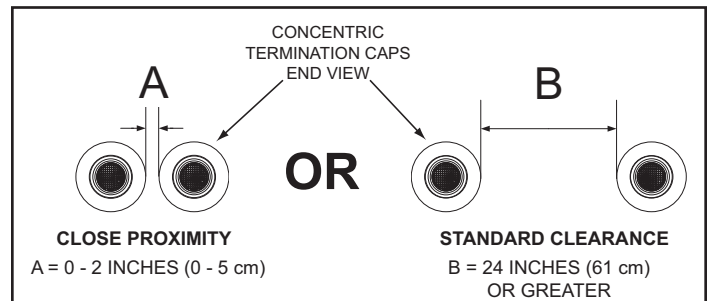
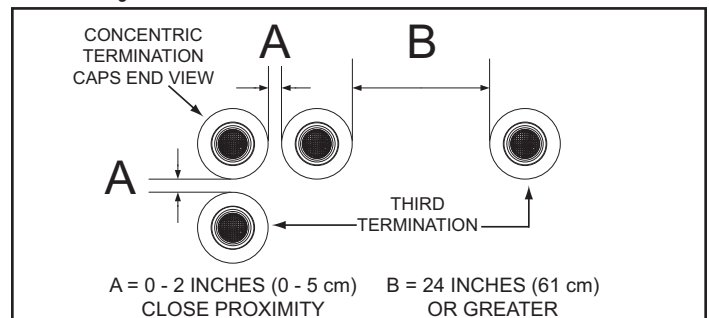
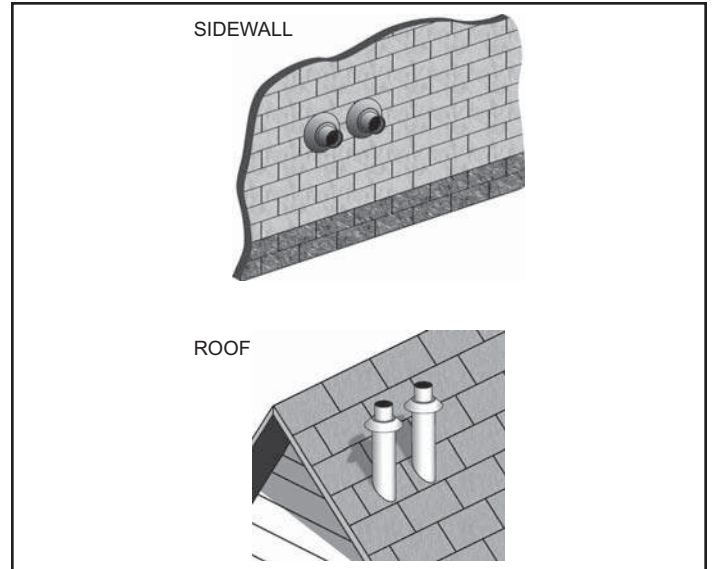

Figure 31. Two Concentric Terminations
Figure 32. Three Concentric Terminations
Figure 36. Two Concentric Terminations
When installing multiple concentric terminations through a roof or through a sidewall the clearances shown in Figure 31 must be maintained.
1. The clearance between multiple termination caps must be zero inches (touching) to a maximum of two inches (5 cm), dimension A - Figure 31, when installing concentric terminations in close proximity. See Figure 36 (page 32).
2. The clearance between multiple termination caps must be increased to a minimum of 24 inches (61 cm), dimension B - Figure 31, when installation in close proximity (above) is not possible. This is the standard clearance.
1. When installing three concentric terminations through a roof or through a sidewall the third termination may be installed in close proximity as indicated by dimension A in Figure 32.
2. If close proximity installation of the third termination is not possible the third termination may be installed as indicated by dimension B in Figure 32.
2. Four is the maximum number of concentric terminations that may be installed in a group where all terminations are in close proximity as shown in *Figure 31*.
Two concentric terminations may be installed in close proximity as shown in *Figure 36* or with standard clearances when this arrangement is not possible. See *Figure 31* (page 31) for detailed information on clearances. See *Figure 32* (page 31) when installing three concentric terminations.